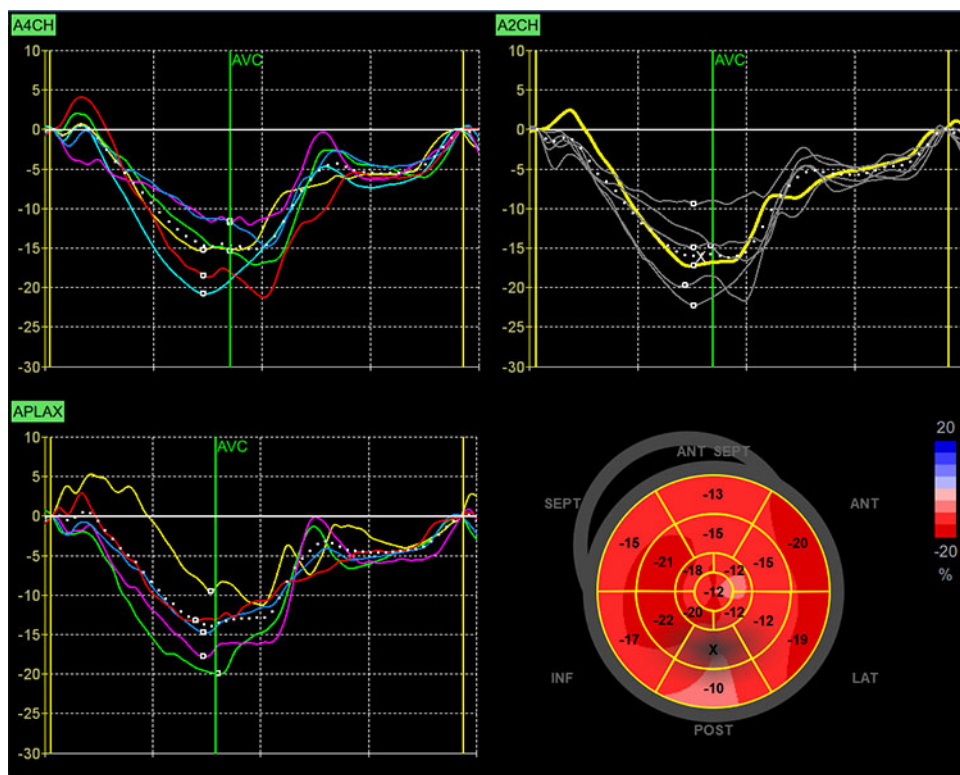

Figure 8-19. Bull's Eye and Traces screen
- *BE+Traces*: In addition to the Bull's eye, also displays the strain traces for all three views. In this view, it is possible to correct trace peaks by clicking and dragging peak markers or clicking the corresponding segment in the Bull's eye (Figure 8-19).
1. Press **BE+Traces**. The Bull's Eye and Traces screen is displayed (see Figure 8-19)